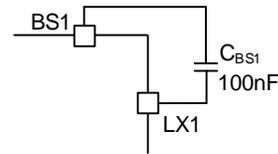

Fig. 5. External Bootstrap Capacitor Connection
The SY21612 provides a function for VBUS output current limit by sensing the voltage drop between VBUS pin and ISEN pin (as shown in fig.5). Once the voltage difference ($V_{VBUS}-V_{ISEN}$) exceeds the voltage threshold, which can be configured by register 0x02[7:5], the internal control loop will regulate the output current by decreasing duty cycle until UVP or OTP is triggered. Noticing that the effects of R_{PIN} and R_{WIRE} cannot be ignored, the actual limit current I_{LIMIT} can be calculated as given in Equation (2):